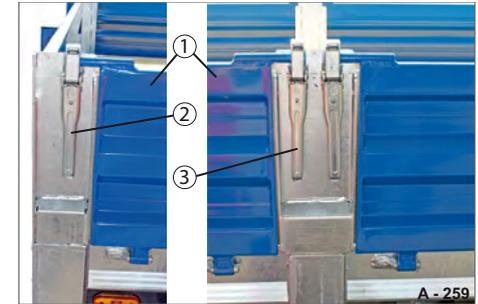

Fig. 131 Platform gate locked
- ▶ Open the platform gate fasteners (Fig. 131/2 & Fig. 131/3).
- ▶ If necessary, clear any pushing load and firmly press the platform gate (Fig. 131/1) closed.